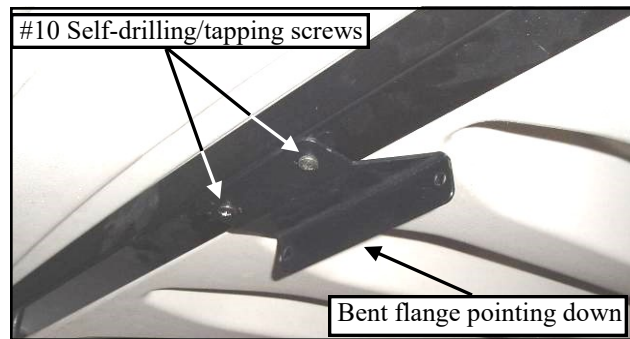

Figure 3.2 (view forward from driver's seat)
3.2 Per fig. 3.2, orient Heater Mount 2 as shown, lining up the holes in the mount with the marks made in the previous step. The bent flange that attaches to the heater unit will be pointed downward. Attach with two #10 x 3/4" long self-drilling/tapping screws using a drill, taking care not to over-tighten and strip out the threads.